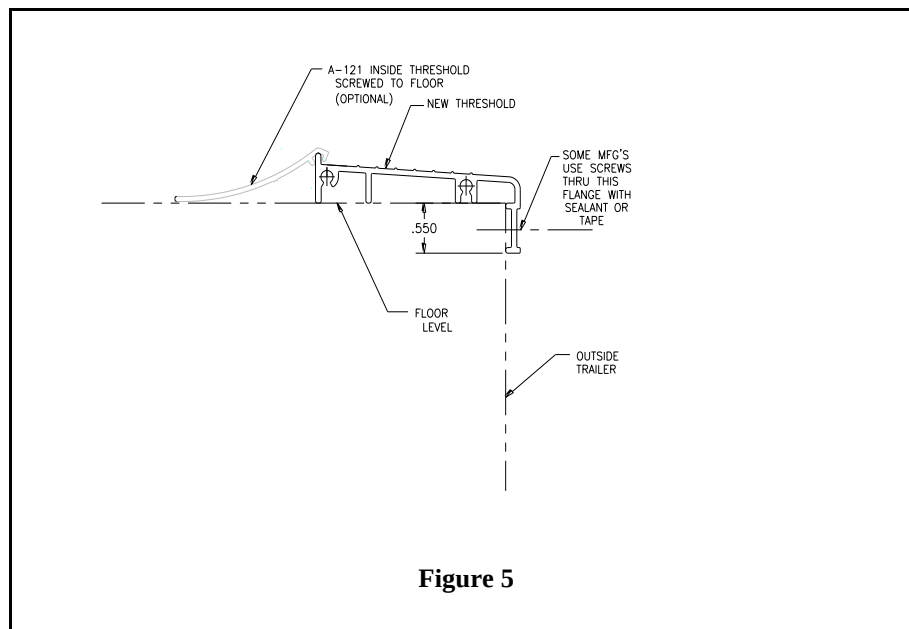

Figure 5
11. Drive screws through threshold if necessary or desired. (See Figure 5)